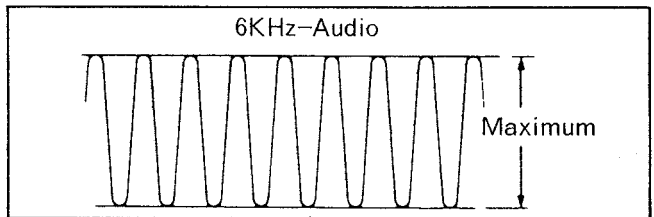

Fig. M15
3. Adjust the screw (B) so that the audio output level becomes maximum. (Fig.M15)